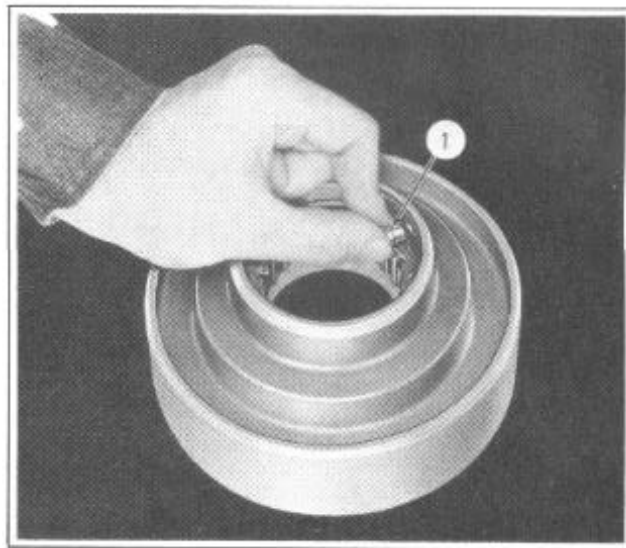

FIGURE 102
12. Remove the spacer plate dowel pin (1), Figure 102.